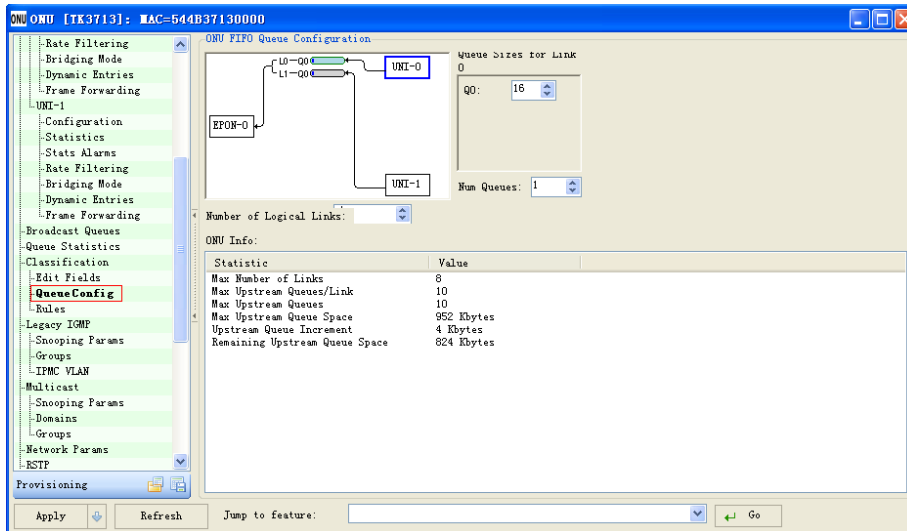

Figure 8-9 Link Configuration Window
- 1) In the ONU window, select Queue Config to display the window of link configuration shown in the Figure 8-9;